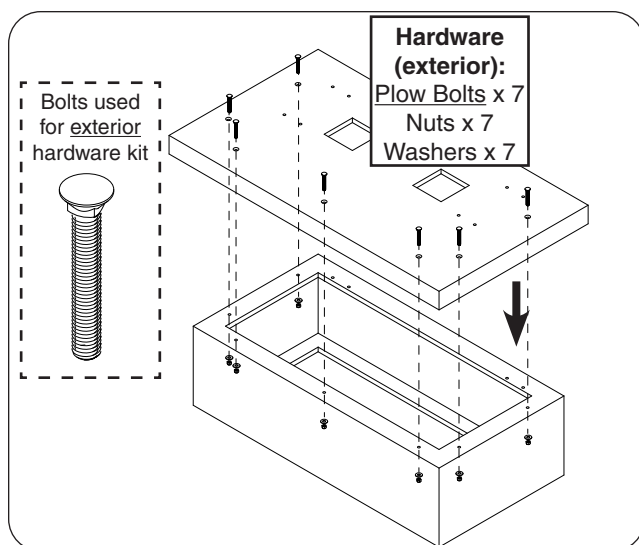

Fig. 21-2 Assemble shelf
2. Place the shelf piece on top of the hearth. Carefully align the pilot holes, and insert the hardware (exterior hardware kits) in the order shown in Fig. 21-2. Hand tighten, then use a 3/4" open end wrench (or equivalent) to fasten.